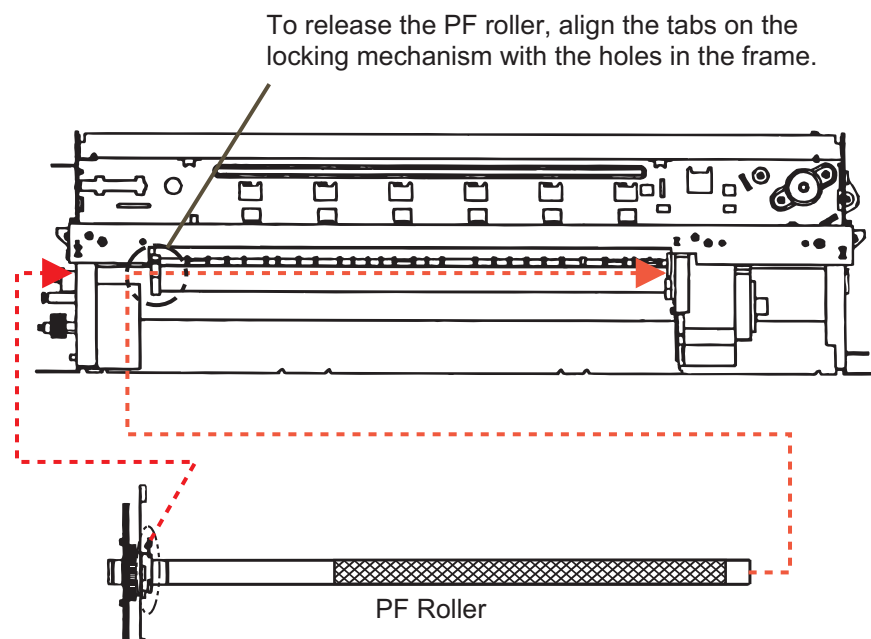

Figure 4-22. Removing the PF Roller
8. Remove the PF roller (see Figure 4-22) by pulling out on the locking tab located on the left side of the PF roller. Then rotate the tab so that the other tabs align with the notches in the frame. Slide the PF roller assembly to the right and pull it out.